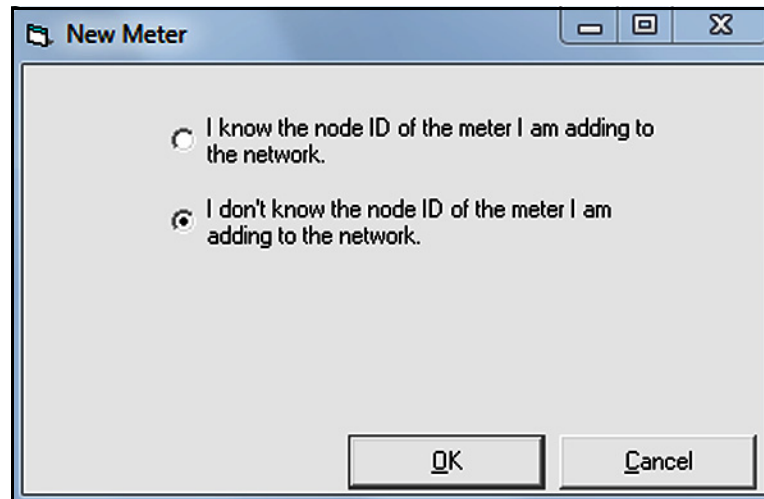

Figure 38: The Node ID Dialog Box
- After selecting the "New" and "Meter" options, the dialog box shown in Figure 38 below opens. Select the "I don't know the node ID of the meter I am adding to the network" radio button and then click [OK] button.
- a. At the Node ID dialog box (see *Figure 38 on page 35*), select the *"I know the node ID of the meter I am adding to the network"* option and Click [OK] button.